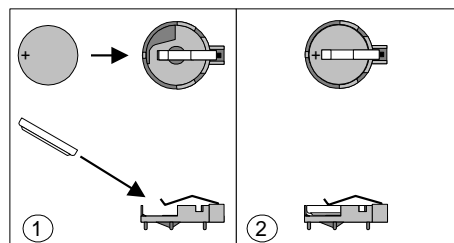

Figure 29: Removing the Battery
5. Figure 29, 1 shows the battery location. Gently pry the battery free from its socket, taking care to note the "+" and "-" orientation of the battery (Figure 29, 2).